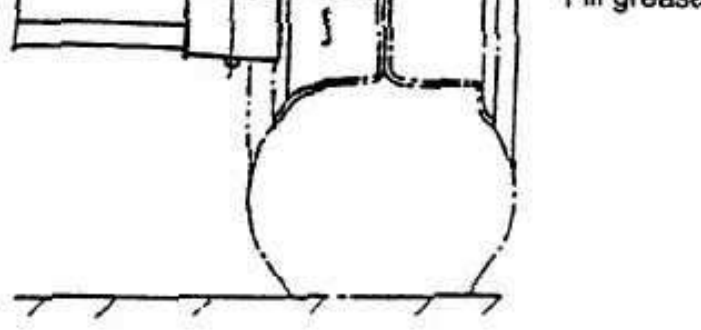

Fig5.5 Pre-load adjustment
(1) As shown in Fig5.5, fill up the chamber formed by wheel hubs, wheel hub bearing and wheel hub covers with lubricating grease. Coat the lips of the oil seals with lubricating grease.
(2) Press the hub bearing into the hub and fit the hub on the knuckle shaft.
(3) Fit a flat washer and tighten a castle nut with torque of $206 \sim 235 \text{ N.m}$ and loosen it and then tighten it again with torque of 9.8 N.m .
(4) To ensure firm installation of the hub, slightly knock at it with a wooden hammer and in the meantime, rotate the hub for $3 \sim 4$ turns.
(5) Tighten the castle nut and align one of its notches with a hole drilled in the steering knuckle.